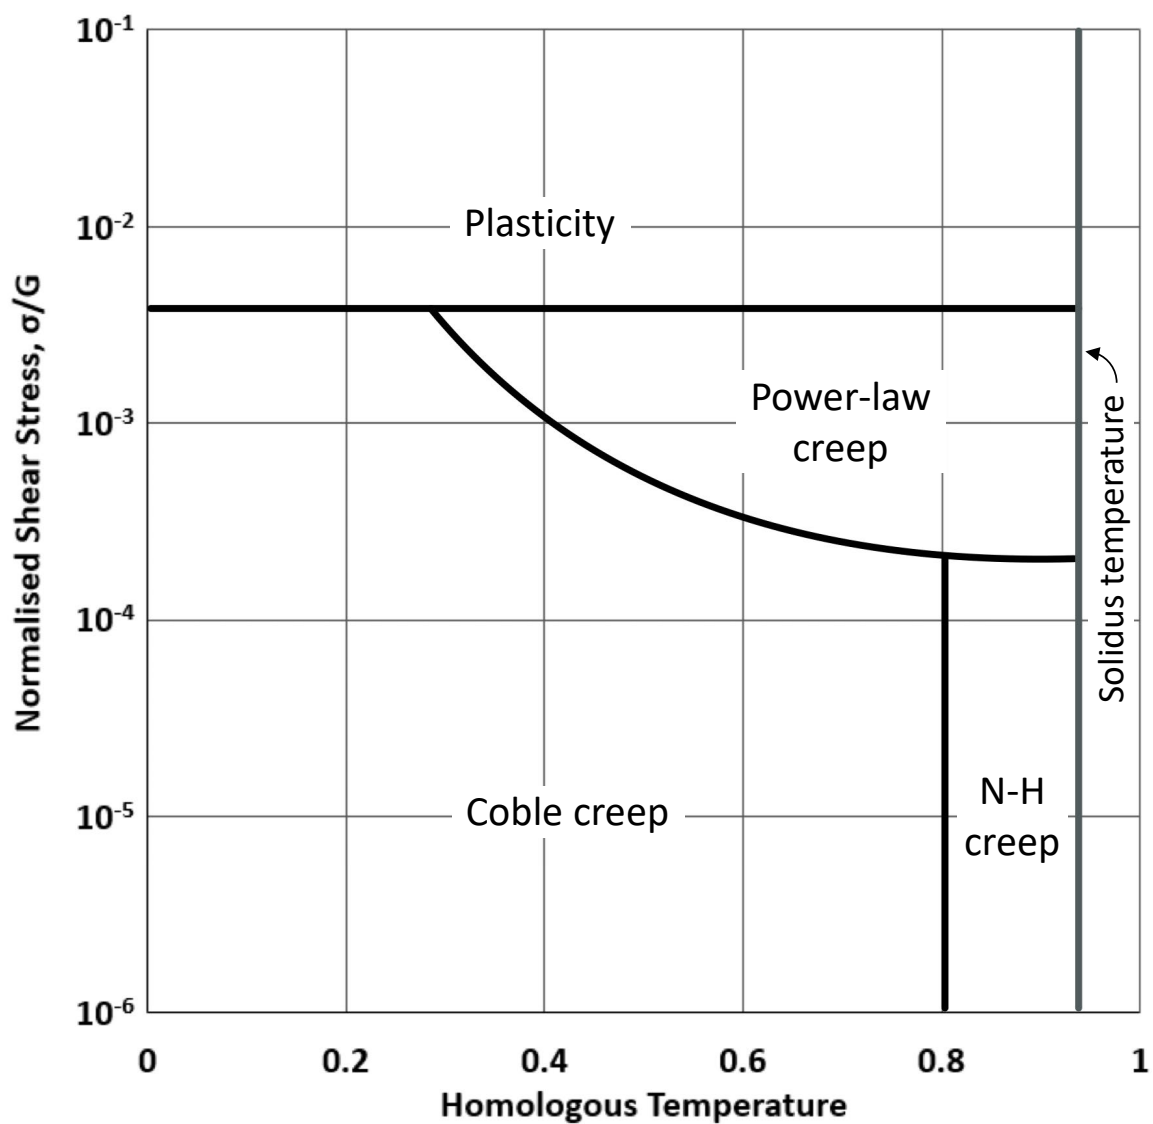

Figure Q3: Deformation mechanism map for 316 stainless steel with a grain size of 200 μm .
- (i) Use Figure Q3, show whether or not the component could operate under the service conditions for the required time. [12 marks]
- (c) The deformation map in Figure Q3 gives two separate regions for diffusional flow. Explain what may influence the position of the boundary between the two regions. [4 marks]